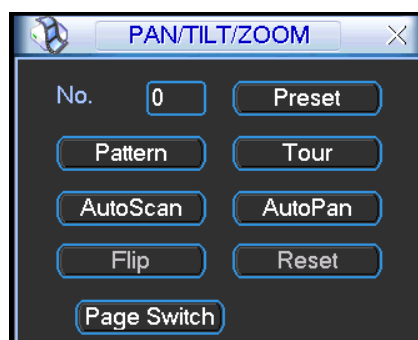
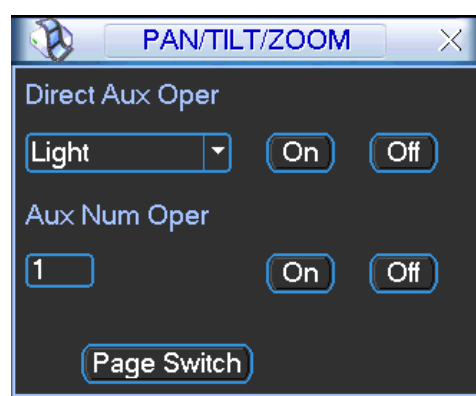

Figure 6-6
Figure 6-11
In \_Figure 6-2, click page switch button, you can see an interface as in \_Figure 6-6.
**Note:** The following setups are usually operated in the \_Figure 6-2, \_Figure 6-5 and \_Figure 6-6.
In \_Figure 6-6 please input preset number in the No. blank, and click preset button.
In \_Figure 6-6, input patrol number in the No. blank and click patrol button
In \_Figure 6-6 input mode value in the No. blank, and click pattern button.
In \_Figure 6-6, click auto scan button, the system begins auto scan. Correspondingly, the auto scan button changes to stop button.
In \_Figure 6-6, click page switch button, you can see an interface is shown as below. See \_Figure 6-11. Here you can set auxiliary function.